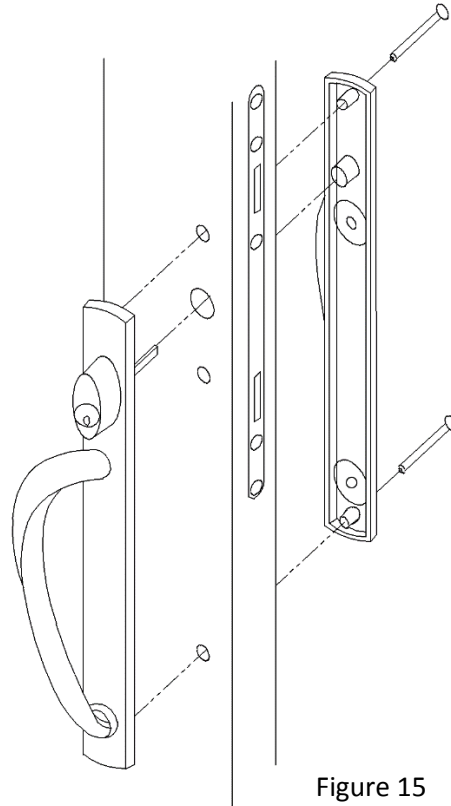

Figure 15
26. Install the standard handle by inserting the exterior and interior handle into the pre-drilled holes. Secure handle by installing the screws on the interior side as shown in figure 15.